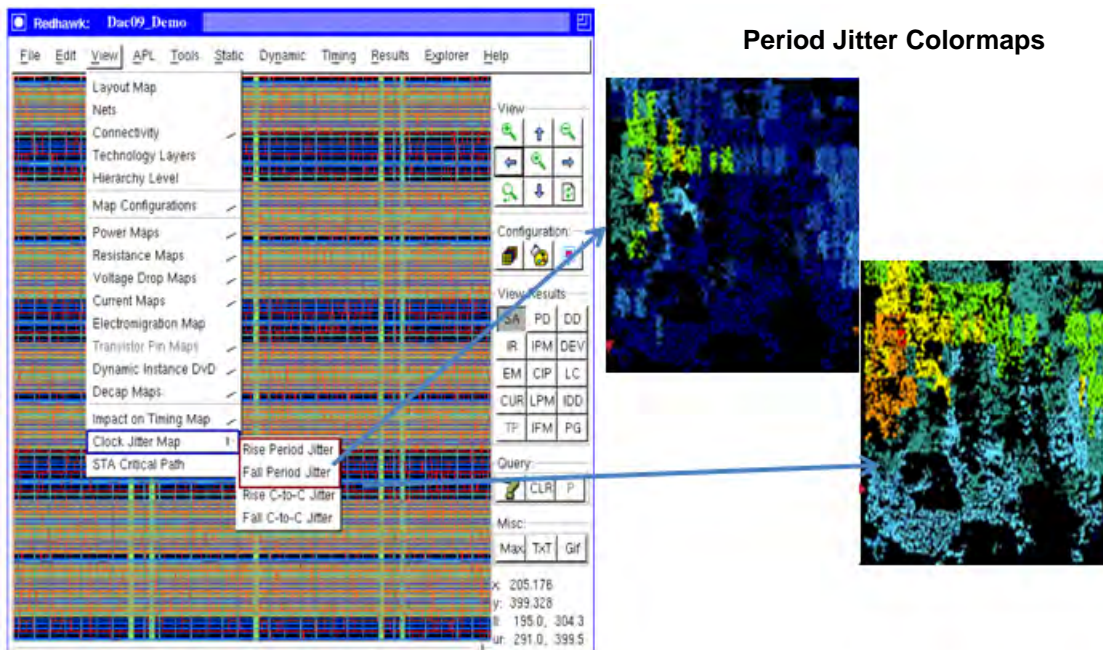

Figure 8-16 Period jitter colormaps
- Period jitter instance colormaps - Click on **View->Clock Jitter Map->Rise/Fall Period Jitter**. The selected colormap is displayed (see Figure 8-16). This can also be displayed using the TCL 'show jitter' command.